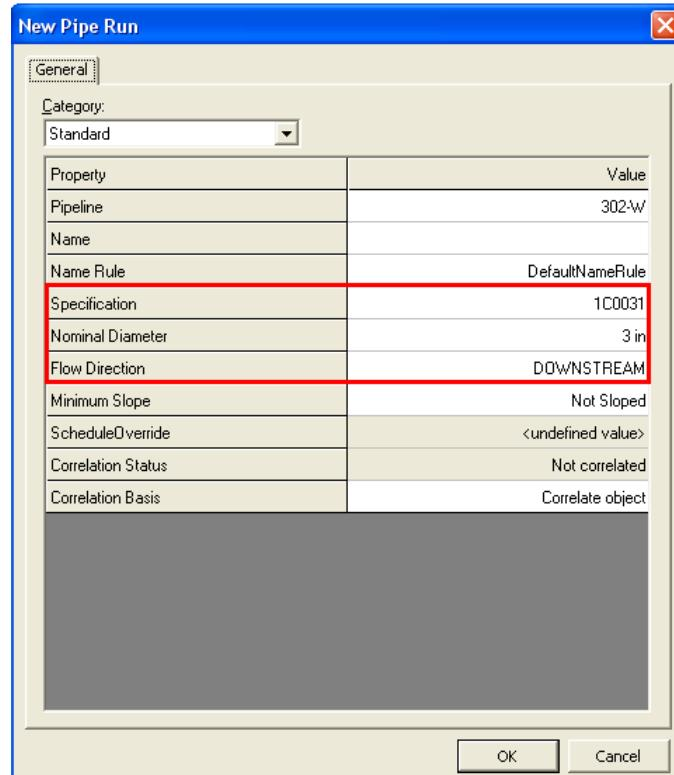

Figure 29: New Pipe Run Dialog Box
14. Change the following specifications in the **New Pipe Run** dialog box, as shown in Figure 29, and click **OK**.